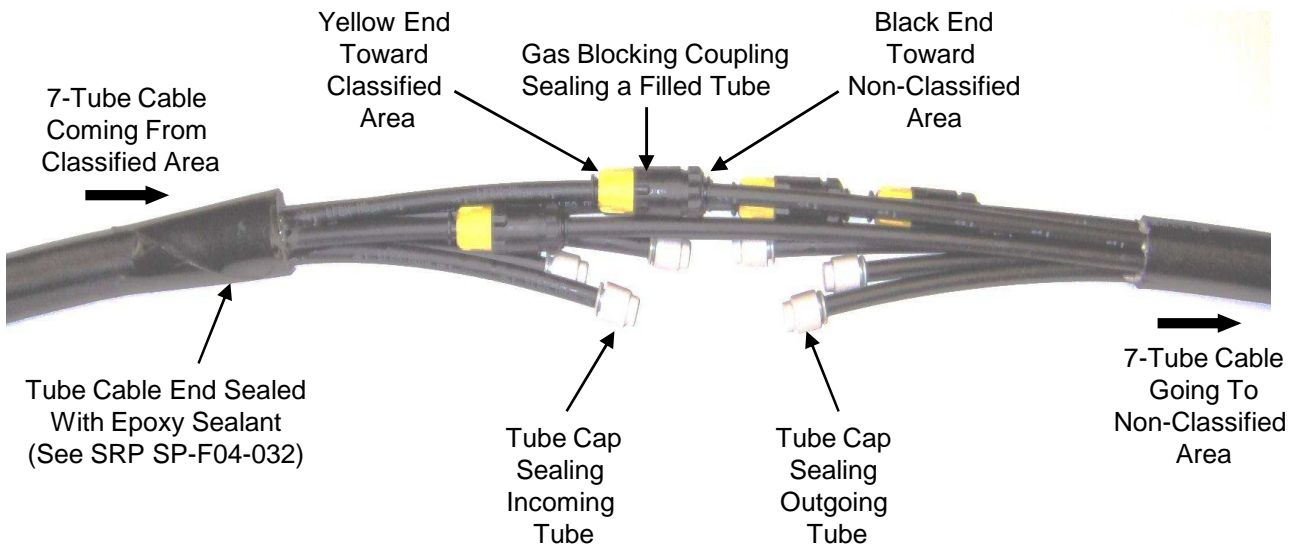

Figure 1
5.1 **See Fig. 1** for a typical equipment layout of a 7-tube cable with its empty tubes sealed with Tube Caps and its tubes filled with fiber bundle sealed with Gas Blocking Couplings.